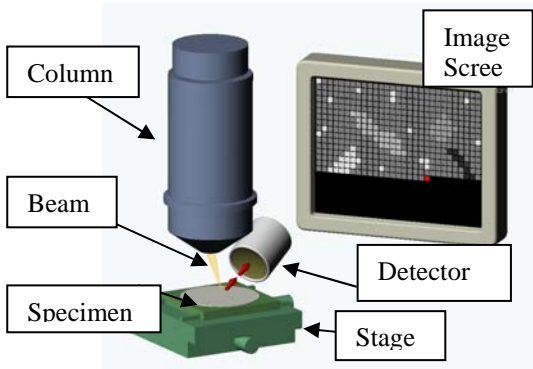

Figure 1: System Diagram
Figure 1 illustrates the way a SEM creates an image. The most important thing in this figure is the beam, which is a focused stream of electrons. The function of the column is to generate the beam and focus it down so it is a really tiny spot at the place where it hits the specimen. (How tiny is the spot? You could easily fit a million of them into the period at the end of this sentence.) The column can also laterally *deflect* the beam so that the location where the *beam spot* strikes the specimen can be precisely controlled. The electrons in that focused beam are traveling very fast, so complicated things happen when they hit the specimen. One thing that happens is that some of those energetic electrons just bounce off the atoms of the specimen: we call those Back-Scattered Electrons (BSE). Another thing that happens is that some of the incident electrons get absorbed in the specimen, at the same time knocking other electrons loose from the atoms of the specimen, and we call those newly liberated ones Secondary Electrons (SE). Also, the absorbed electrons give some of their energy to the atoms they strike and we say that those atoms are "excited" by the beam. One way that an excited atom can get rid of this extra energy is by emitting a photon – if it's a low-energy photon, we see it as visible light, but the most important photons are the high energy ones we call X-rays. In
Now it's important to note that we've drawn Figure 1 with really distorted scales. Specifically, the electron beam is about the diameter of a human hair at its widest point (where it comes out of the column) and converges down to a much smaller spot where it hits the specimen. Also, the angle of deflection we're depicting in this figure is much larger than is usually the case. Instead, we typically sweep that really tiny beam of focused electrons over a comparably tiny region of the specimen – say a square $1/100^{\text{th}}$ of an inch on each side. When we then display the resulting pattern on our display screen, the dimensions of the screen might be 10 x 10 inches – in other words, we are producing a picture that is magnified 1000 times (10 inches divided by 0.01 inch). By choosing how big an area we want to scan, we can thus vary the magnification of our picture – by scanning a bigger area, we reduce the magnification, by scanning a smaller area we increase it. Of course, at the same time we're doing that, we also need to make sure that the size of the focused beam spot is appropriate. It's kind of like painting: you can't paint a clear miniature picture with a big brush, nor can you efficiently paint a large picture with a really tiny brush. Just as you want to match the size of the brush to the job, we want to make the diameter of the electron beam spot corresponds to the area represented by a single pixel on the display screen.
The last thing we need to point out in Figure 1 is the stage. In one sense, the stage is nothing more than the platform we lay the specimen on. In practice, however, it's a lot more important than that. First of all, let's note that the object we've
Another way that Figure 1 is oversimplified is that it looks like we're examining our specimen out in the open. That's not the case. You need a pretty good vacuum in order to maintain a focused beam of electrons because the electrons in the beam would be scattered all over the place if they encountered air molecules. So an important aspect of the instrument is the *vacuum chamber*.